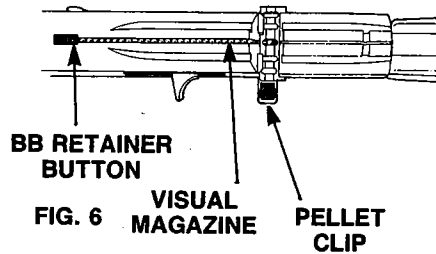

FIG. 6
- Turn the rifle over, tilt the barrel downward slightly and shake the gun (Fig. 5) to fill the visual magazine. (Fig. 6)
- Push BB retainer button forward to keep BBs in visual magazine. (Fig. 6)
- Position the pellet clip so the bolt will feed through one of the pellet chambers in the clip. (Fig. 6)
- Push the bolt all the way forward slowly and you will see the BB move through the clip. (Fig. 6). The BB is now in a position to be fired out the barrel.